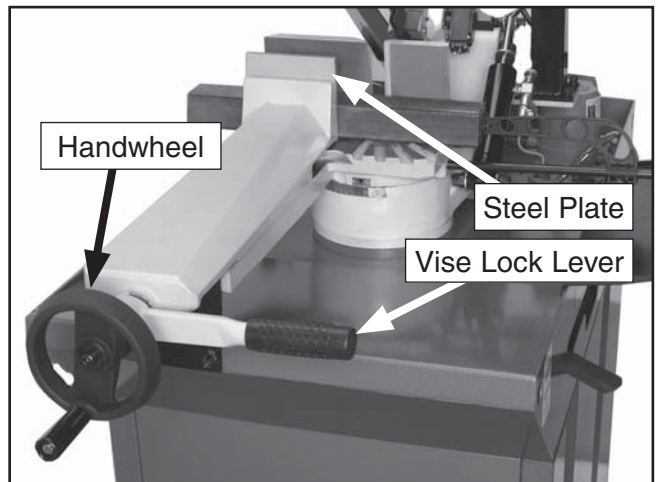

Figure 16. Vise options and controls.
The vise has a quick tighten/release lever and, depending on the cut angle or workpiece shape, you can remove or install the aluminium vise clamp plate (**Figure 16**) for additional holding force.
3. Use the handwheel (**Figure 16**) to move the jaws so they are within 1/8" from clamping the workpiece.